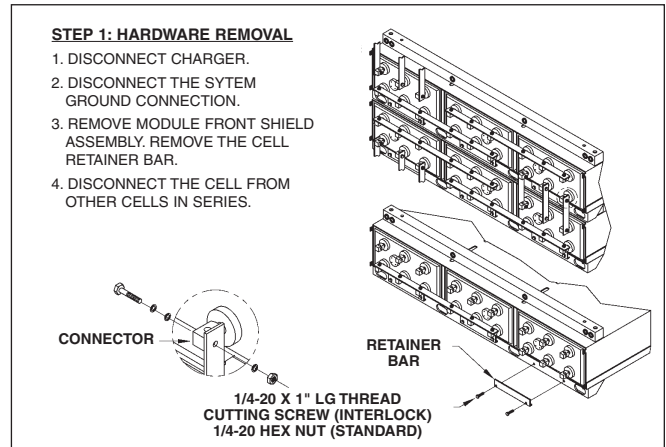

Fig. 8-1
2. Refer to Fig. 8-1 through 8-4 below for specific instructions.